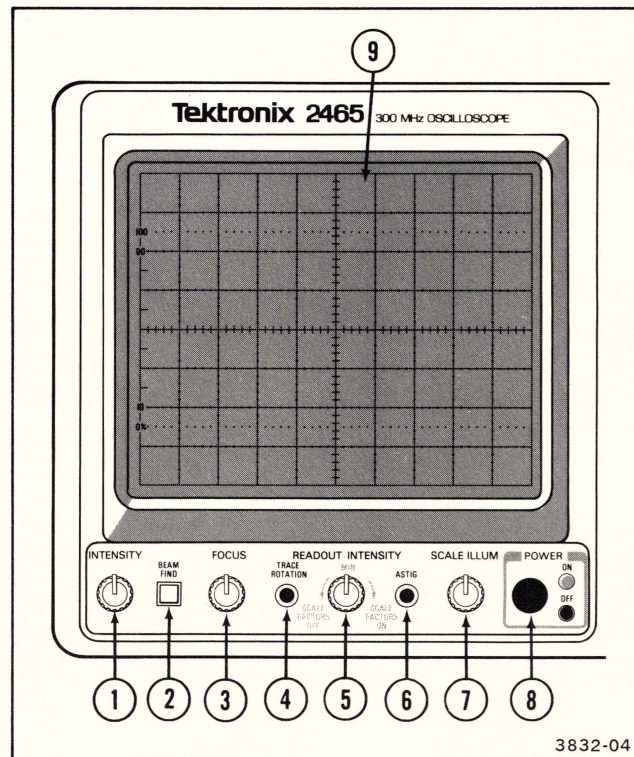

Figure 3-1. Power and display controls.
Refer to Figure 3-1 for location of items 1 through 9.
- ① **INTENSITY Control**—Adjusts brightness of the crt trace display. This control does not affect intensity of the crt readout display.
- ② **BEAM FIND Switch**—When held in, compresses the display to within the graticule area. Aids the operator in locating off-screen displays.
- ③ **FOCUS Control**—Adjusts the display for optimum definition.
- ④ **TRACE ROTATION Control**—Operator-adjusted screwdriver control used to align the crt trace with the horizontal graticule lines. Once adjusted, it does not require readjustment during normal operation of the instrument.
- ⑤ **READOUT INTENSITY Control**—Adjusts the intensity of the crt readout display. This control is also used to either enable or disable the scale-factor display. Setting the control to MIN reduces the readout intensity to minimum. Clockwise rotation from midrange increases the readout intensity and enables the scale-factor display; counterclockwise rotation from midrange also increases the intensity but disables the scale-factor display. Delta Volts and Delta Time readouts and control messages will continue to be enabled even when the scale-factor display is disabled.
- ⑥ **ASTIG Control**—Operator-adjusted screwdriver control used in conjunction with the FOCUS control to obtain a well-defined display over the entire graticule area. Once adjusted, it does not require readjustment during normal operation of the instrument.
- ⑦ **SCALE ILLUM Control**—Adjusts the light level of the graticule illumination.
- ⑧ **POWER Switch**—Turns instrument power on and off. Press in for ON; press again for OFF. An internal indicator in the switch shows green when the switch is on and black when it is off. Front-panel settings that were unchanged for at least 10 seconds prior to power-off will be returned when power is reapplied to the instrument.
- ⑨ **CRT**—Has an 80-mm vertical and 100-mm horizontal display area. Internal graticule lines eliminate parallax-viewing error between the trace and the graticule lines. Rise-time measurement points are indicated at the left edge of the graticule.